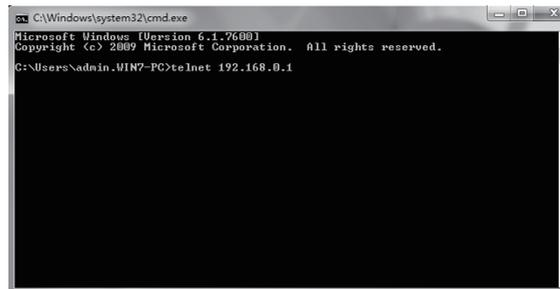

Figure 5-6 Connecting to the switch
3. Type telnet 192.168.0.1 in the command prompt shown as Figure 5-6, and press the Enter button.